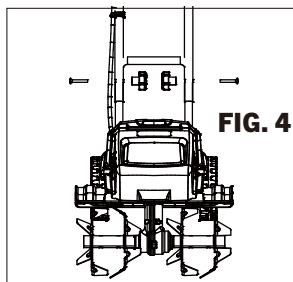

FIG. 4
2. Connect the upper handle frame and middle handle frame to the lower handle frame with the remaining two handle knobs and bolts as shown (Fig.4).